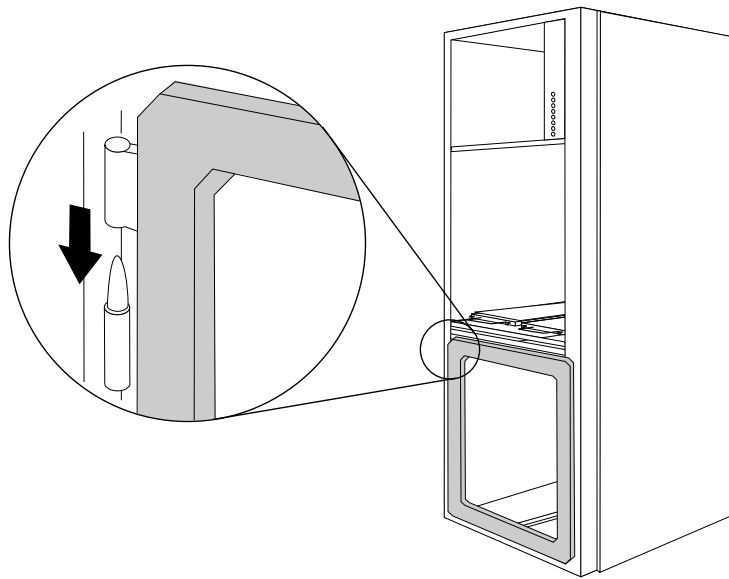

Figure 6. Installing the cabinet doors
3. Hang the doors on the appropriate hinges (see Figure 6).